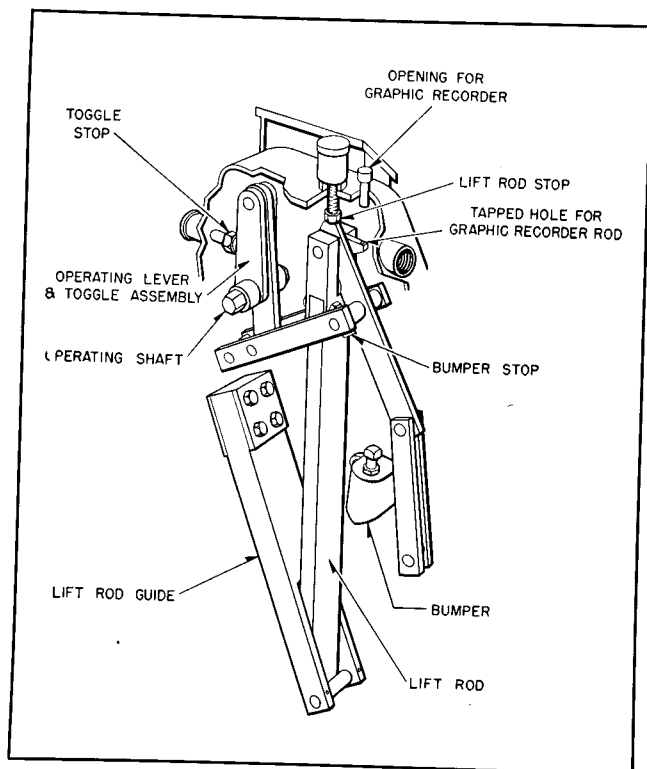

FIG. 8. Pole Unit Lever Assembly of the 69-Kv Breaker
Note: An opening adjacent to the lift rod stop, is provided in the top of each pole unit lever box. For operating a graphic recorder, a rod is inserted through this opening and screwed into a 10-32 tapped hole in the top of the lift rod. (See Fig. 8.)
Referring to Fig. 8, connection may be made to the lift rod through the tank top by removing the small pipe cap beside the cap over the lift rod stop. A projection on the upper end of the lift rod is provided with a No. 10-32 tap directly below this hole, so that a $\frac{3}{16}$ -in. diameter rod with No. 10-32 threads on one end may be readily screwed into the lift rod projection when the breaker is closed.
4. The pole unit lever assemblies. These are actuated by levers on operating shafts on which the above mentioned pull rods are mounted. (See Fig. 8.)